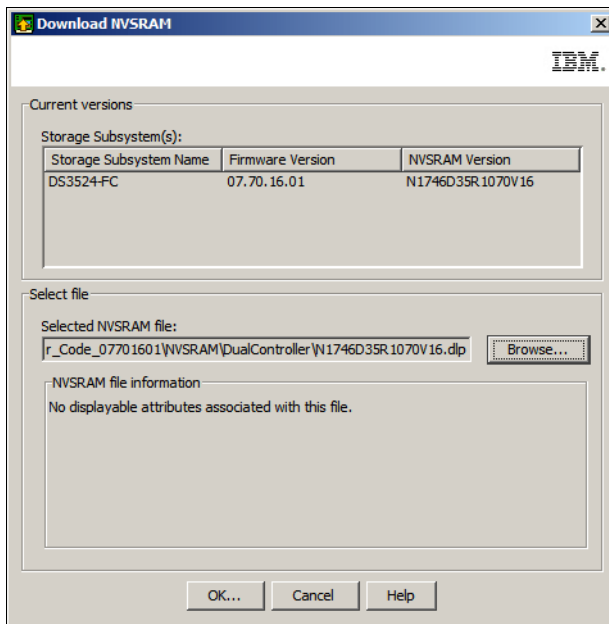

Figure 14-57 Download NVSRAM with NVSRAM file selected
- b. Click the **Browse** button to select the appropriate NVSRAM file (either single controller or dual controller NVSRAM) for your DS3500 storage system (Figure 14-57).